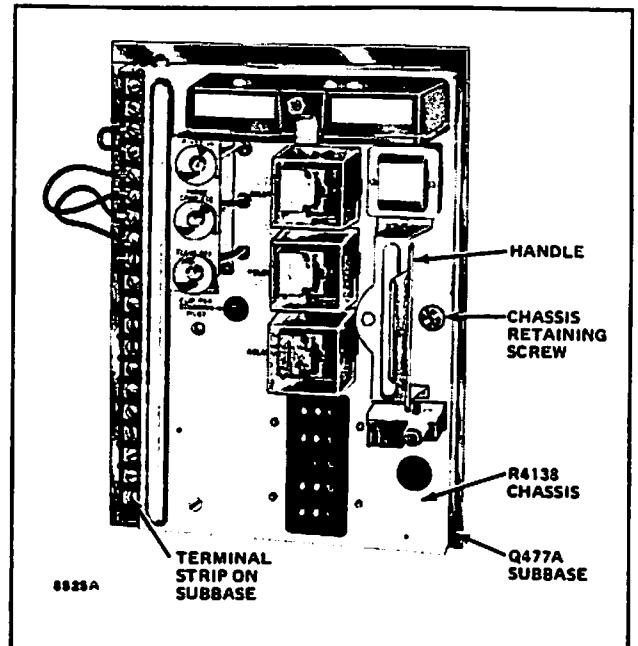

FIG. 13—R4138 INSTALLED ON A Q477A SUBBASE.
7. Insert the chassis retaining screw (Fig. 13) into the threaded stud on the subbase or in the cabinet, and tighten it securely.
3. Loosen the chassis retaining screw completely from the threaded stud (Fig. 13).